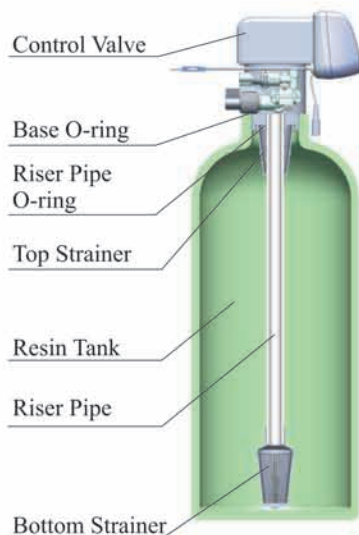

Figure1-1
⑥Do not install the filter or softener, drain pipeline in circumstance which temperature may drop below 5℃, or above 50℃.
⑦The system should be installed in a place where there will be the minimum loss in case of water leakage.
①Install control valve
a.As the Figure 1-1 shows, select the riser pipe with 26.7mm OD, glue the riser pipe to the bottom strainer and put it into the mineral tank, cut off the exceeding tube out of tank top opening. Plug the riser tube in case of mineral entering.